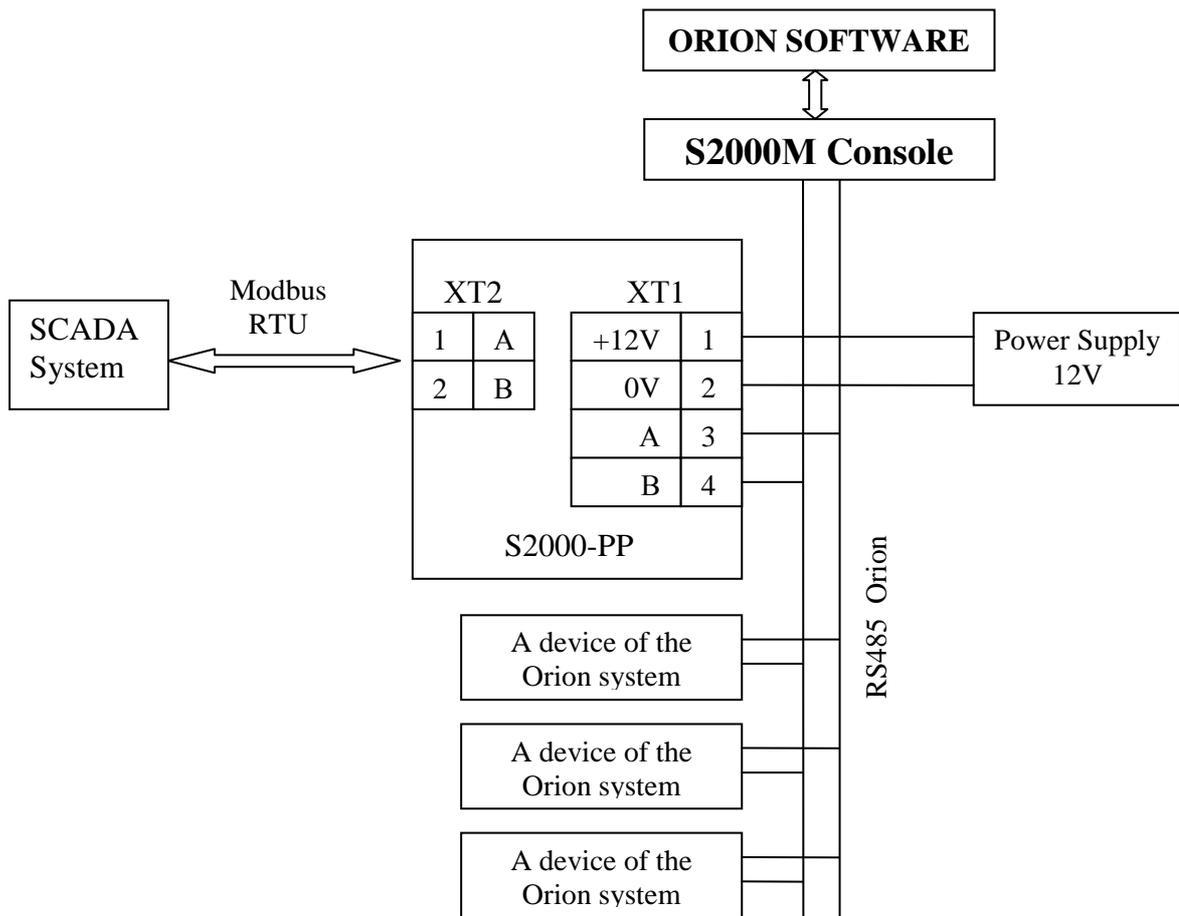

Figure 11. Connecting the S2000-PP in the Orion Slave Mode
6.2. Figure 11 shows the schematic for connecting the S2000-PP in the Orion Slave mode to integrate a fire & intrusion alarm system from the Bolid Company (Orion system devices) into a SCADA system of the user.